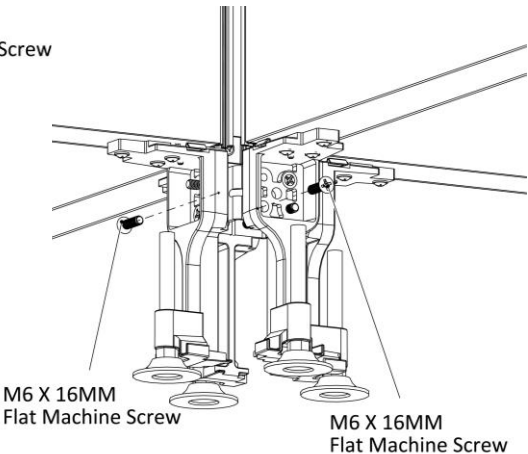

Figure 10
- 20. Secure the base with two M6 X 16MM, Flat Machine Screws, (Figure 10).